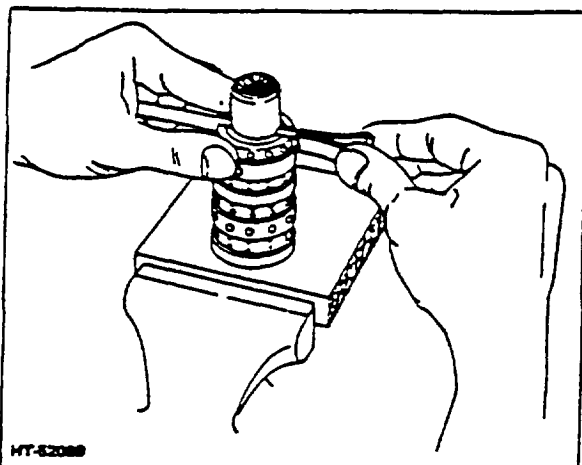

Figure 22. Installing Centering Spring Set
6. With spring slots of the spool and sleeve in line, stand parts on end and insert spring installation tool through slots in both parts (Fig. 22). Position 3 pairs of centering springs (or 2 sets of three each) on bench so that extended edge is down and arched center section is together. In this position, enter one end of entire spring set into spring Installation tool.